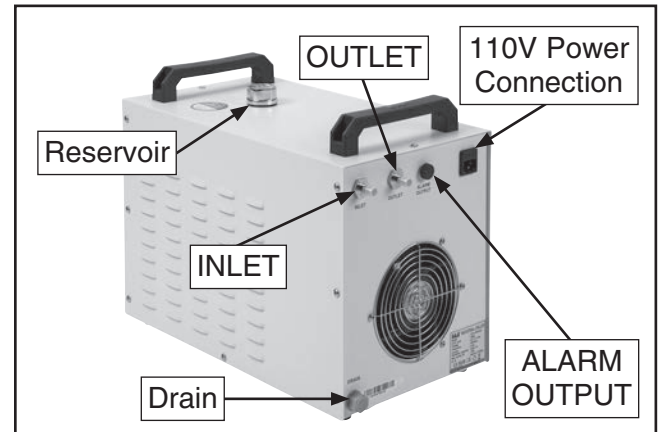

Figure 20. Water chiller connections.
2. On water chiller (see **Figure 20**), install water chiller tubing onto INLET and OUTLET fittings, then connect signal cord to ALARM OUTPUT receptacle.